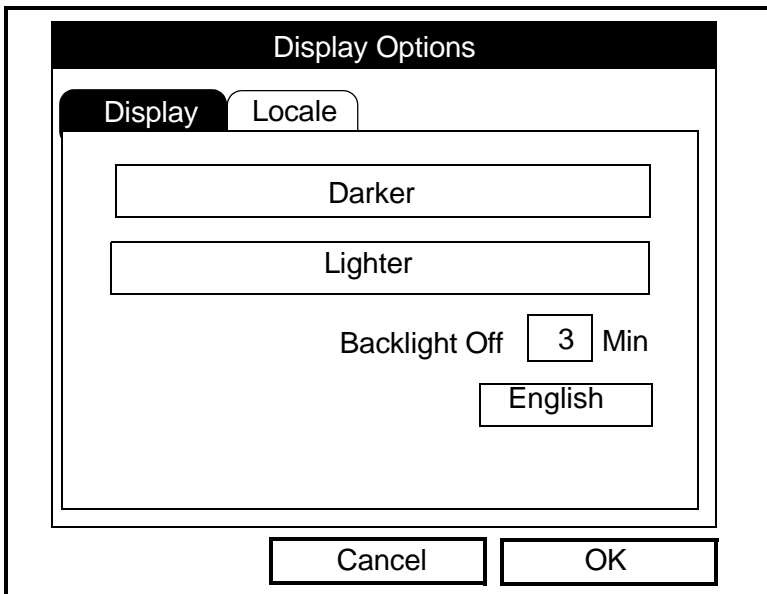

Figure 7-5: Display Tab in the Display Options Window
1. From the Meter menu, scroll to the Contrast entry and press [ENTER]. The Display Options window opens on the Display tab, as shown in Figure 7-5 below. (From the Format tab, press the [◀] key to move to the Display tab.) To step through each parameter, press the [▼] key.
1. From the Meter menu, scroll to the Backlight entry and press [ENTER]. The Display Options window opens on the Display tab, as shown in Figure 7-5 on page 7-12.
- To confirm the entries and return to Operate mode, press [F3] (OK).